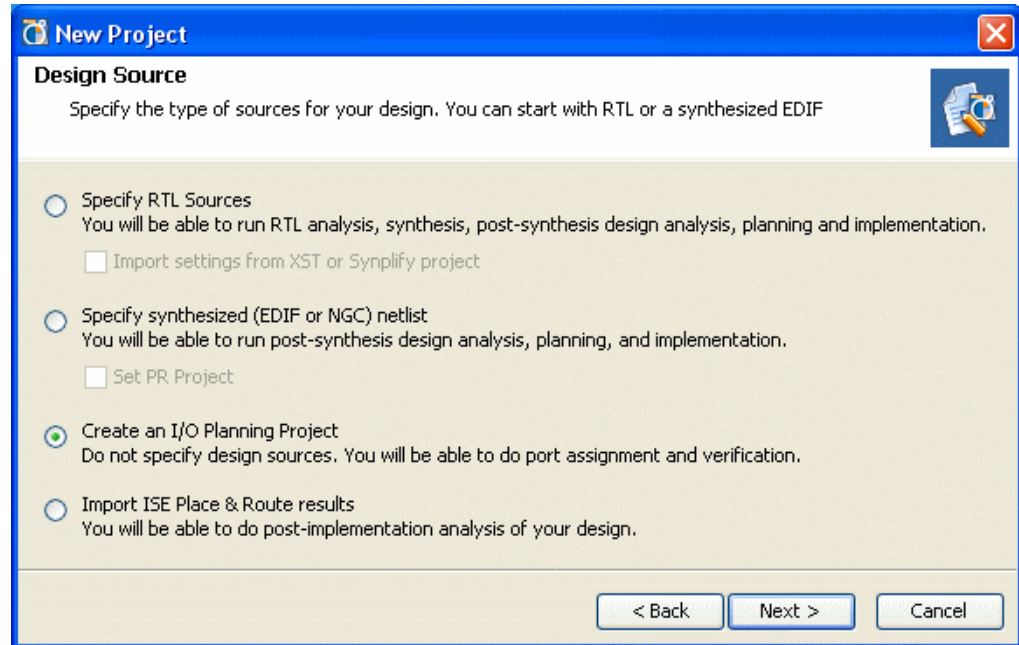

Figure 3-14: Creating an I/O Planning Project
1. Select the **Create an I/O Planning Project** option in the Design Source page, as shown in Figure 3-14, page 56.